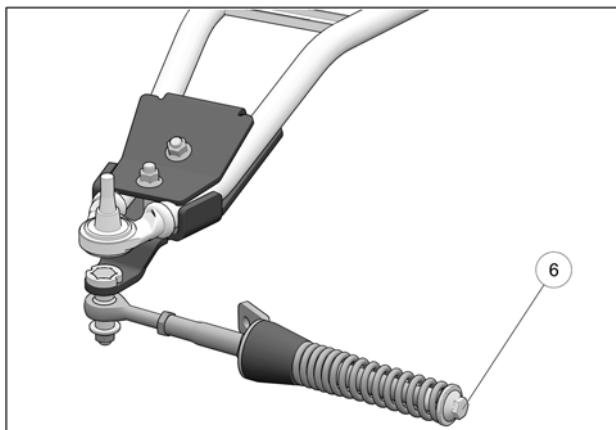

Fig. 17
9. Make sure spring mounting bolt (6) is torqued to specification: 75 N•m [55 lb•ft]. Fig. 17